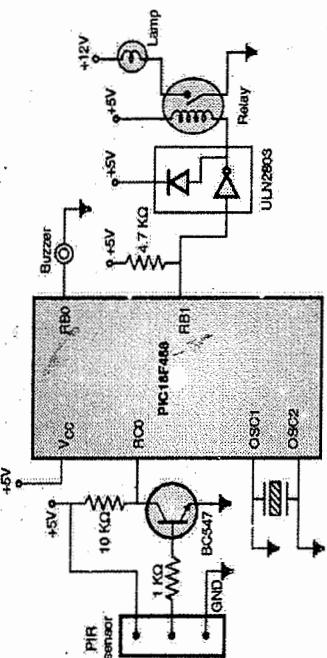

Fig. 14.15.1 : Home Protection System Using PIC
- Fig. 14.15.1 shows a simple security alarm system that uses PIR (Passive Infrared Sensor). The sensor detects human motion by sensing the atmospheric temperature variations. The PIR sensor can operate in darkness also. The human motion detected by the PIR sensor will activate the PIR sensor output which in turn will activate the external lamps, or alarm sirens. In this way the burglar / intruder who entered the home will be exposed.